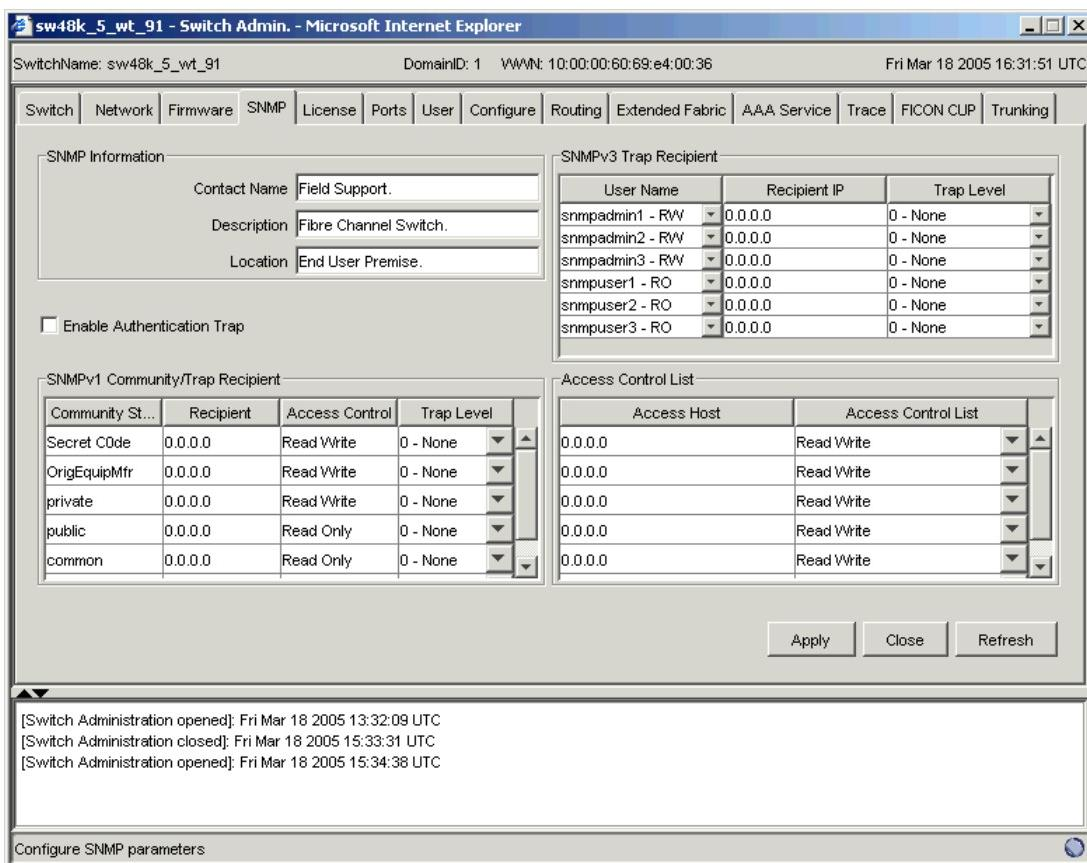

Figure 21 SNMP tab
2. Click the **SNMP** tab (see Figure 21).
- Click the **SNMP** tab (see Figure 21).
2. Select the **SNMP** tab (see Figure 21 on page 66).
2. Click the **SNMP** tab (see Figure 21 on page 66).